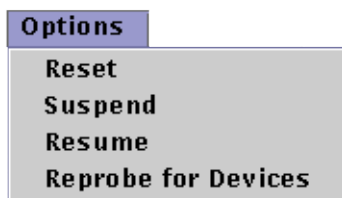

FIGURE 3-11 Options Menu
1. Select the **Options** button to access the **Options** menu (FIGURE 3-11).